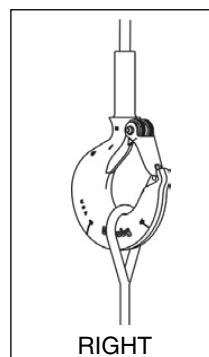
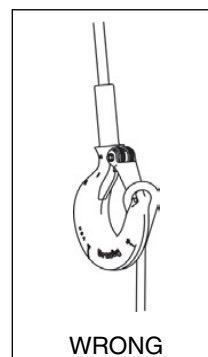

Figure 3
Figure 4
- Always make sure the hook supports the load (See Figure 3). The latch must never support the load (See Figure 4).
Crosby Mooring Sockets (See Figure 3) are designed to be used in marine applications where attachment to shackles and connecting links is required.
Crosby Button Sockets (see Figure 4) are designed to terminate all types of running ropes used on mobile cranes to connect a hoist line to a crane block or overhaul ball.